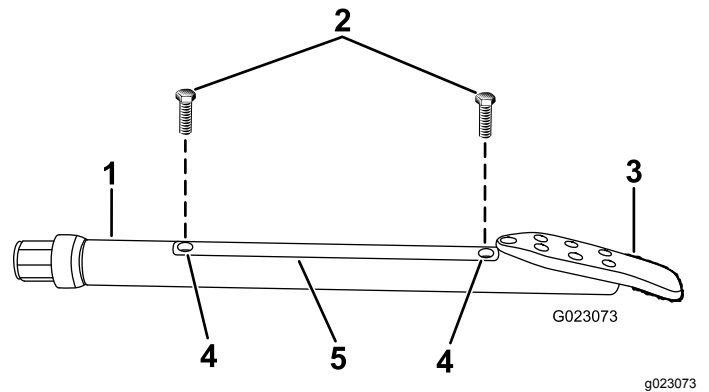

Figure 55
2. Loosen the screws securing the housing cover to the housing and remove the cover (Figure 55).
4. Install the housing cover and secure it with the screws (Figure 55).